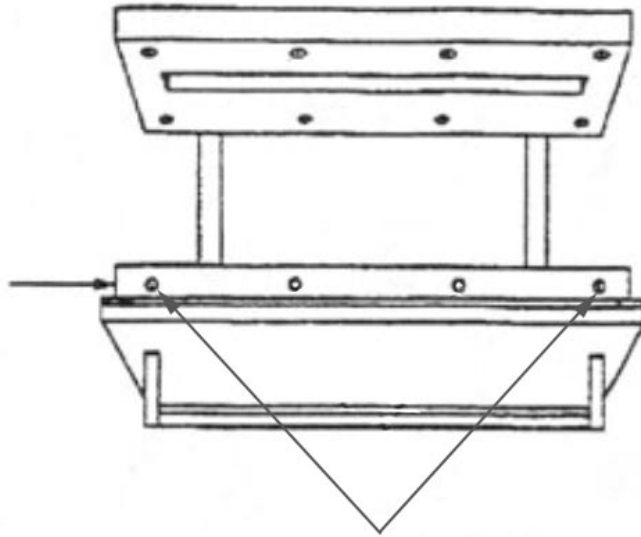

Figure 6-9. Leveling Screw Locations
2. Loosen the two tray leveling screws. (See **Figure 6.9**.)